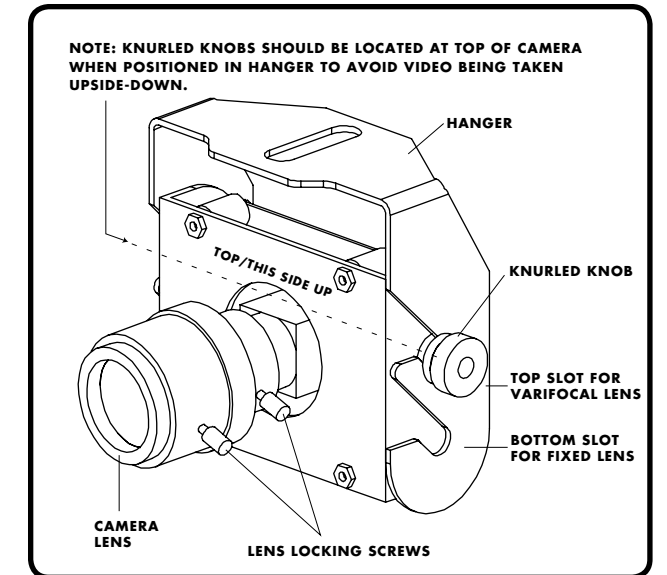

FIGURE 5
4. Place camera into hanger bracket. Make final pan and tilt adjustments and hand tighten knurled knobs to secure. [**FIGURE 5**]
5. Make any necessary adjustments to the lens by hand turning the lens. On the varifocal lens loosen the lens locking screws, adjust focal length desired and focus camera, retighten the lens locking screws. [**FIGURE 5**]